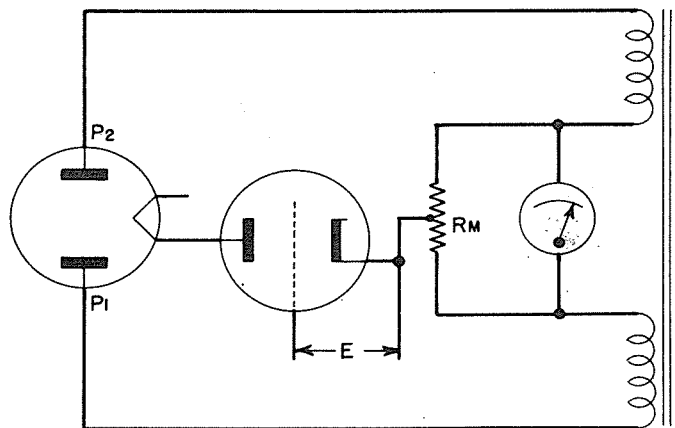

Figure 2-2. Basic Mutual Conductance Circuit Illustrating Theory
b. If the electron tube to be tested is substituted for the fixed load resistance, and a fixed bias E is applied to the tube as in figure 2-2, the meter will still read zero because an electron tube under steady-state conditions acts like a fixed resistance.